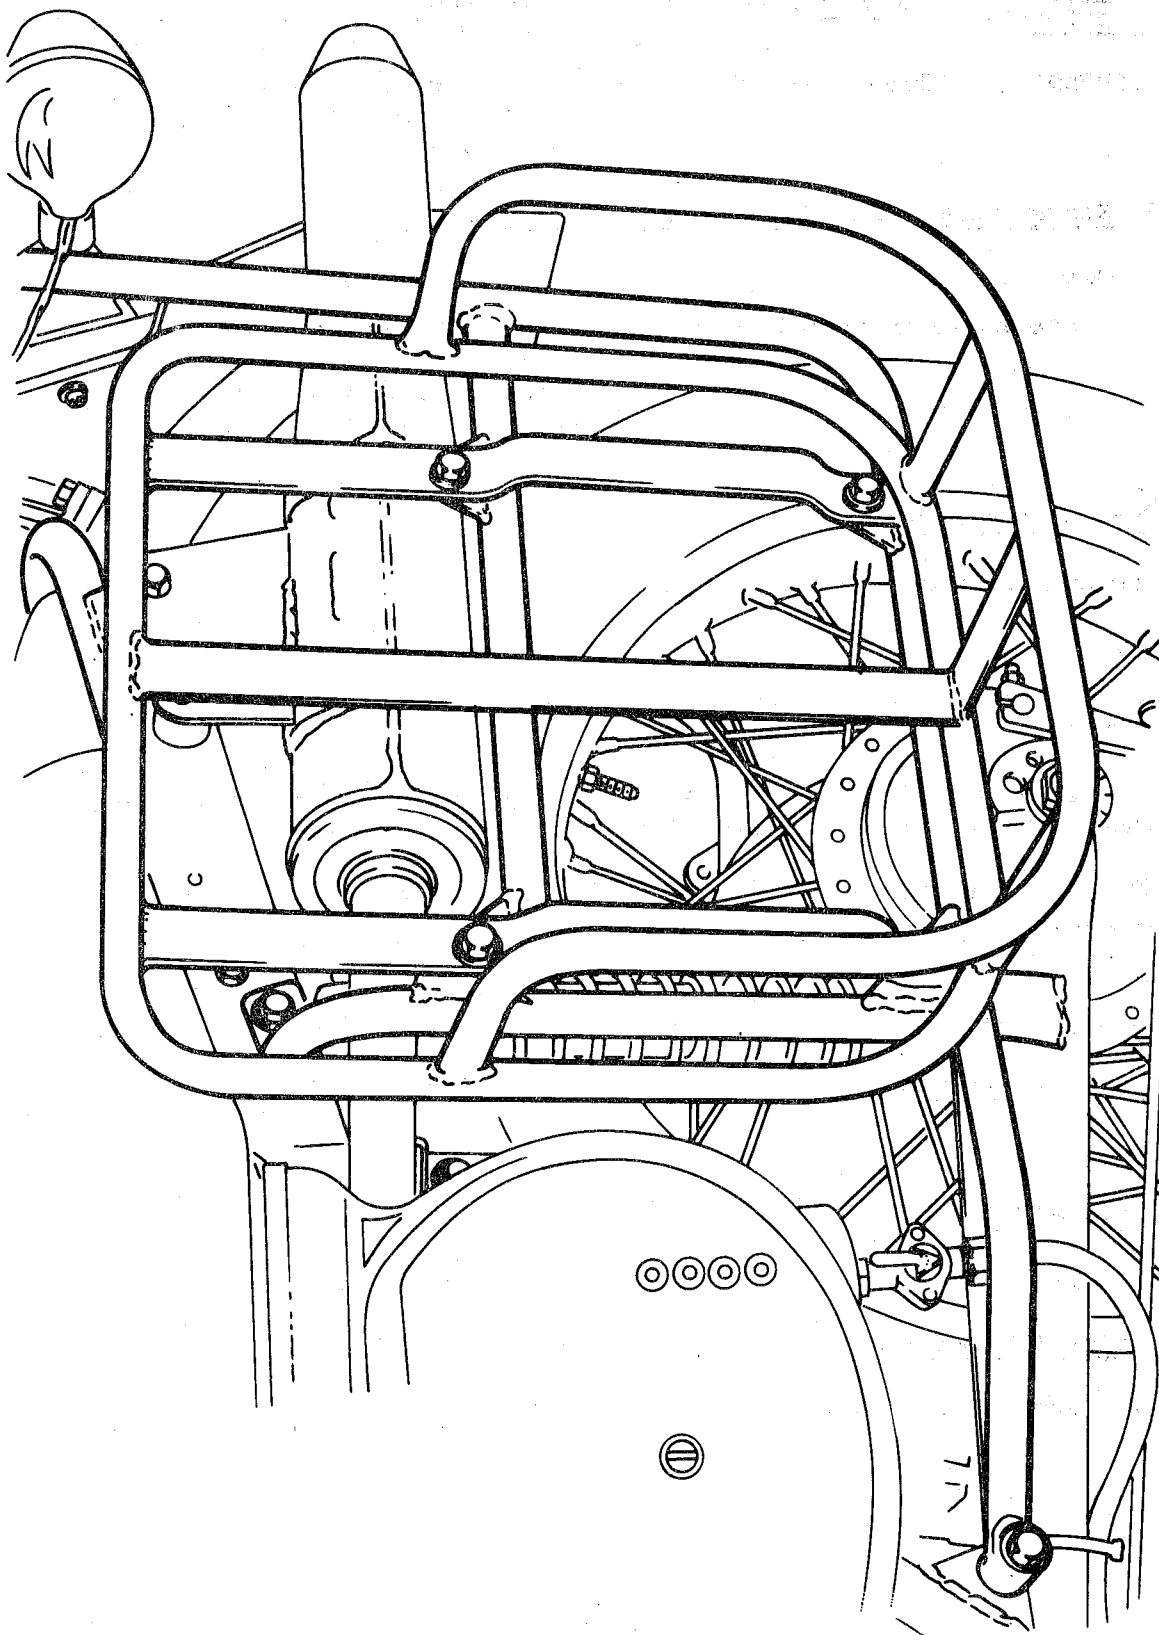

Fig 1 - Carrier canvas pannier bag
9.2 Fit carrier (item 1) to rack as detailed in Fig 1 using retained fixings.